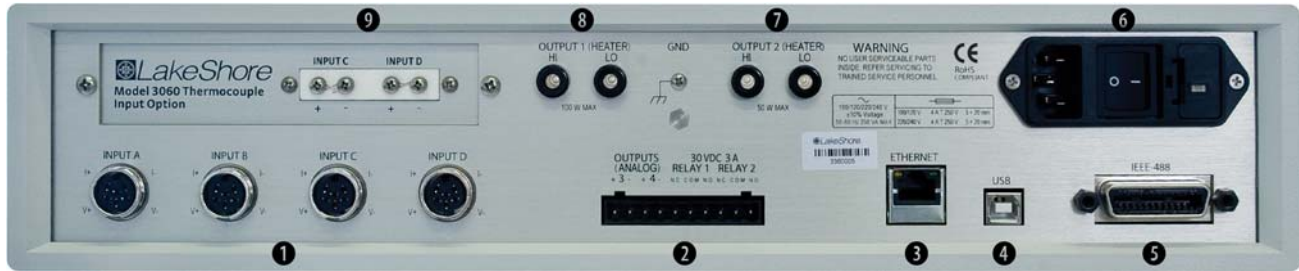

FIGURE 3-1 Model 336 rear panel
This section provides a description of the Model 336 rear panel connections. The rear panel consists of the Input A, B, C, and D sensor input connectors (#1 in FIGURE 3-1), Output 3 and 4 analog voltage output and relays 1 and 2 terminal block connector (2), RJ-45 ethernet connector (3), USB B-type connector (4), IEEE-488 interface connector (5), line input assembly (6), Output 1 and 2 heater output connectors (7 and 8), and the thermocouple option card inputs (9). Refer to section 8.10 for rear panel connector pin-out details.